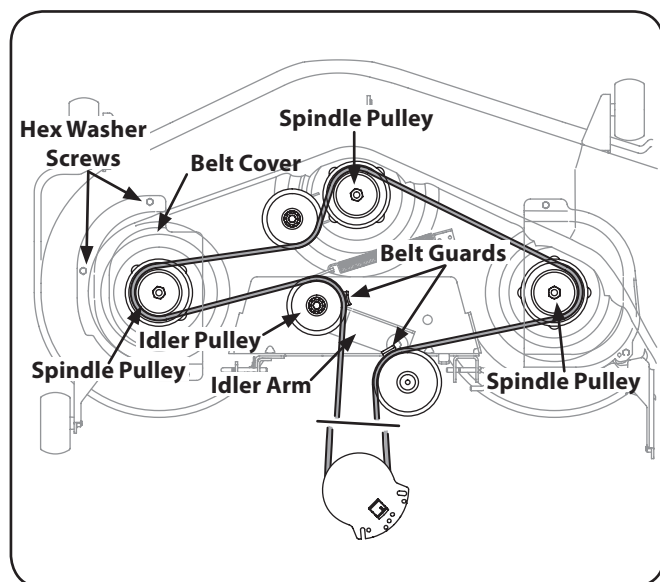

Figure 7-12
3. Remove the two idler pulleys by removing the hex screws and flange lock nuts that secure them to the deck and the idler arm. See Figure 7-12. Do not lose any of the hardware when removing the hex screw and flange lock nut.
6. Place the belt around the idler pulleys removed in step 3 with the "V" side facing in. Once in place, reinstall all the hardware and tighten the flange lock nut to secure the assembly. See Figure 7-12.
7. Route the belt as shown in Figure 7-12 and then reinstall the deck (refer to Deck Installation on page 30).